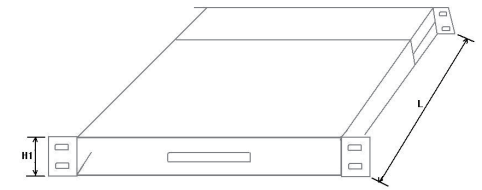

Figure 1
1. See Figure 1, when the pull-type monitor is fully folded, press the front two white screws tighten at the same time, the monitor can be fixed, so installed in the slide screen will not slide out. When the pull-up monitor is fully folded, its height H1 is 1U high and